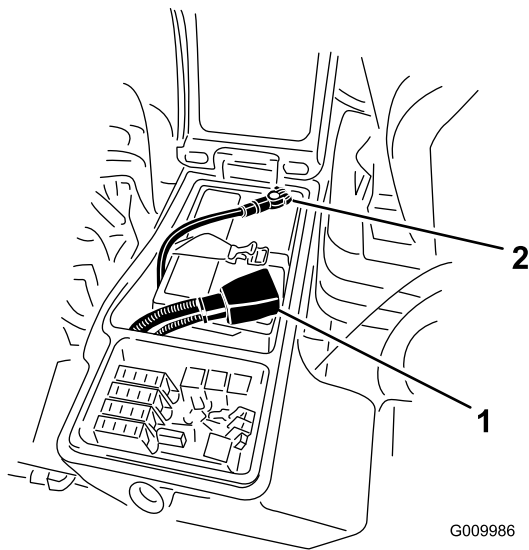

Figure 37
4. Install the positive cable (red) to the positive (+) terminal and the negative cable (black) to the negative (-) terminal of the battery (Figure 37). Secure cables to posts with capscrews and nuts. Make sure that the positive (+) terminal is all of the way onto the post and the cable is positioned snug to the battery. The cable must not contact the battery cover. Slide the rubber boot over the positive terminal to prevent a possible short from occurring.